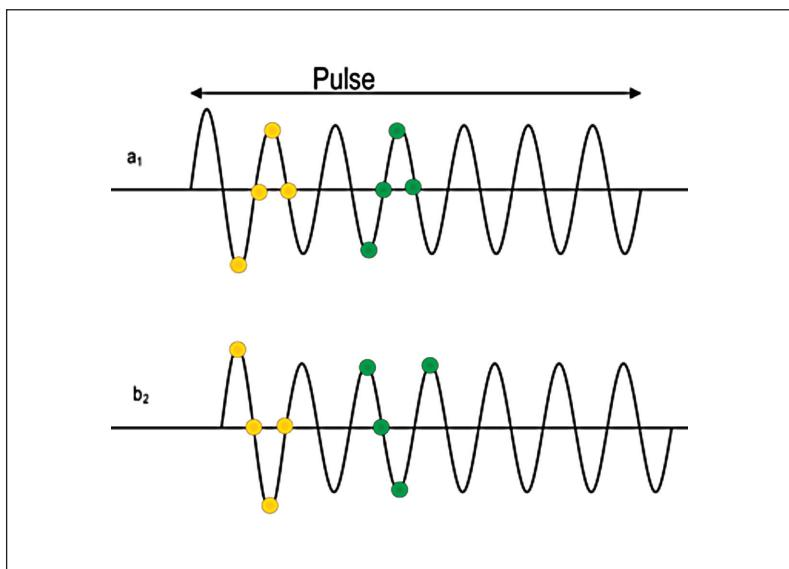

Figure 12. Example of a pulse parameter change affecting calibration.
To understand the effect of changing pulse measurement parameters, consider the IF waveforms shown in Figure 12. They illustrate a simple 2-port transmission calibration step, where a thru line is connected and stimulus pulsing is being used.
- Stimulus pulsing is used: As in the example of Figure 12, it may be desirable to recalibrate if it is believed that the measurements occur at a point for which there is some overshoot from the stimulus. If the test is made using an Anritsu Pulse Modulator Test Set, this overshoot is less than ~0.5 dB and only covers about the first 5 ns. If not using that time zone, or if that zone is used but ~0.1 dB impact is not significant, then one need not recalibrate. If using another stimulus modulator, one should consider its response pattern.